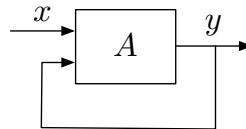

Figure 2.36: Feedback in a matrix system.
2. Let x and y be vectors and A a matrix. Consider the block diagram in Figure 2.36. According to the diagram, the matrix A must partition into two blocks: $A = \begin{bmatrix} A_1 & A_2 \end{bmatrix}$. Then $y = A_1x + A_2y$. When does this equation define a function from x to y ?
function from x to y . Thus the answer is, Figure 2.36 defines a function if and only if $I - A_2$ is invertible (equivalently, 1 is not an eigenvalue of A_2).